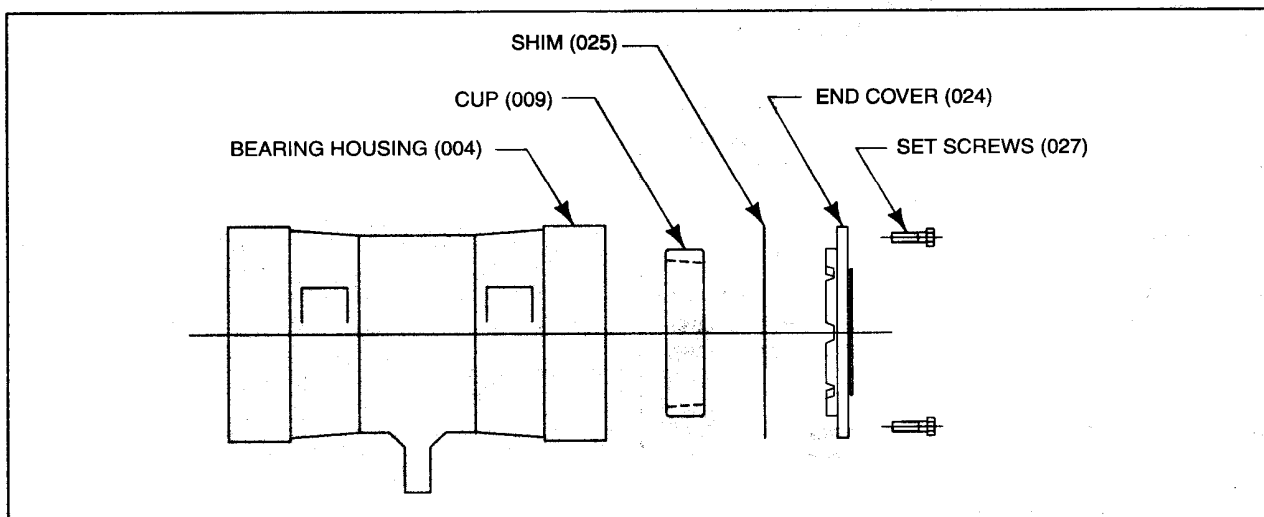

Figure 2-2 • Fitting Impeller End Bearing Cup to Housing
**BEARING ASSEMBLY – FITTING IMPELLER END BEARING CUP TO HOUSING (Figure 2-2)**
1. Apply oil or light grease to bore at each end of BEARING HOUSING (004).
2. Press, or carefully tap with mallet, cup of BEARING (009) into one end of bearing housing until the cup is slightly below the end face of housing.